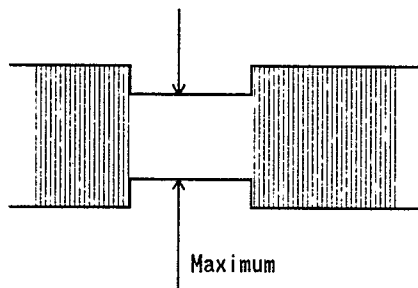

Fig. 5-9
3. Adjust the X value adjustment nut ⑤ for maximum ENVE signal for CH1 by using F6-N test tape (Refer to Fig. 5-9).